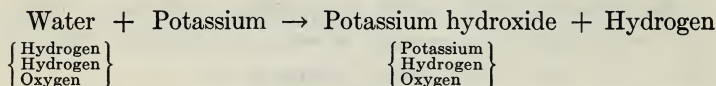

Fig. 38. Action of potassium on water.
64. Behavior of potassium and sodium with water. There are metals that act vigorously on water in the cold. When a bit of the soft, waxy metal **potassium** is thrown upon water, hydrogen escapes with such energy that the gas ignites, and continues to burn until the potassium is all consumed (Fig. 38).